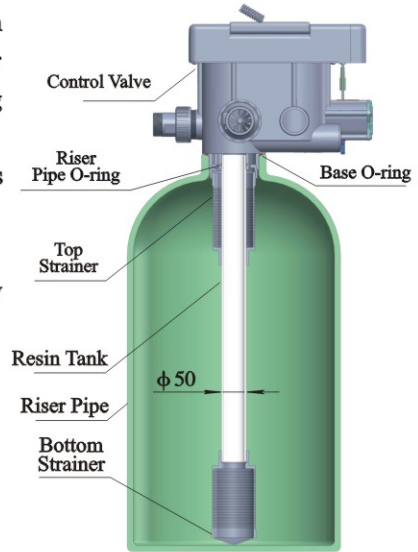

Figure1-1
① Install control valve
a. As the Figure 1-1 shows, select the riser pipe with 50mm OD, glue the riser pipe to the bottom strainer and put it into the mineral tank, cut off the exceeding tube out of tank top opening.